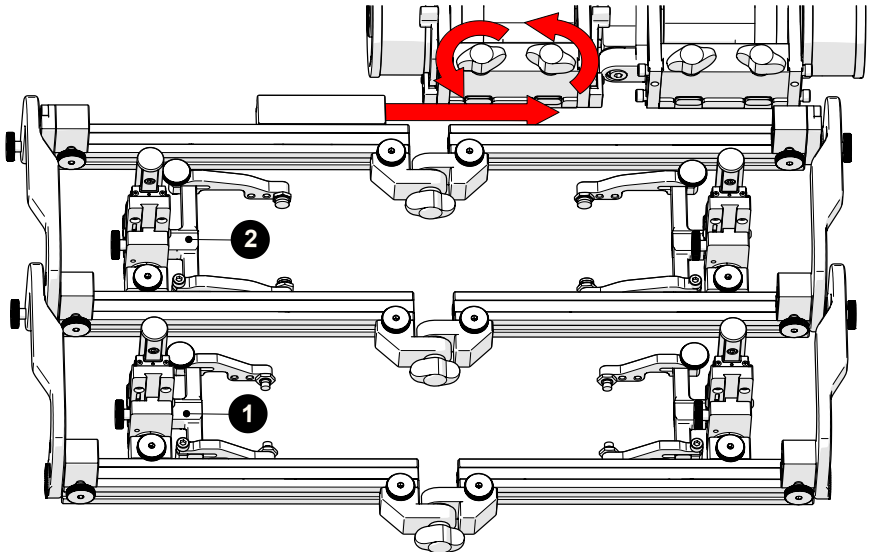

Fig. 266 - Connect frame to right drive module
2. Affix the probe holders (*with attached wedges*) to the probe holder frame. Place the secondary probe holders at the front of the **1** frame while placing the primary probe holders at the rear of the **2** frame system (Fig. 266).